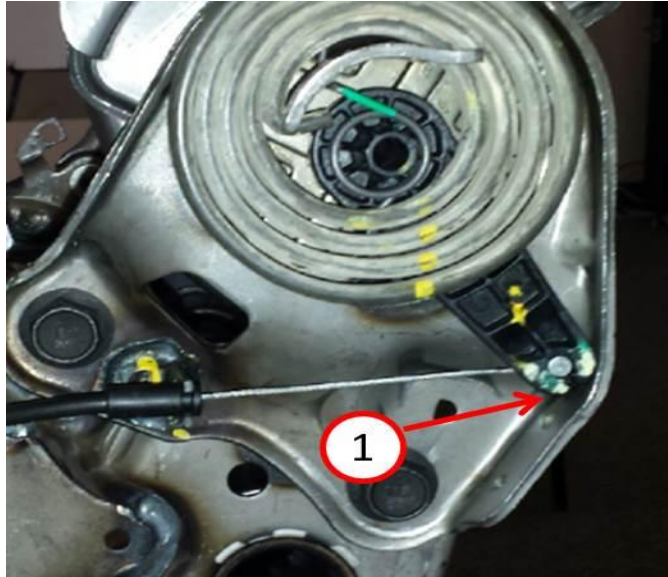

Fig. 3 Cable Into Lever
5. If the end of the cable has come out of the lever place the end of the cable back into the lever (1) on the recliner (Fig. 3).